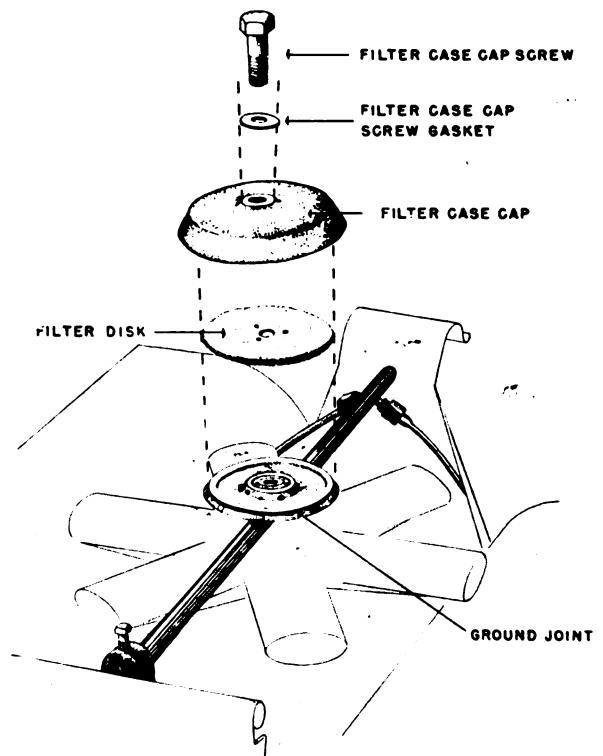

Figure 46. Original filter assembly, unit, fire, M1937.
(1) *How to clean filter case* (see fig. 46). (1) *a* The M1937 fire unit may be equipped with one of two types of filters. The instructions contained in this paragraph are applicable to the original type only. The new type, issued with the two new conversion sets, is discussed in paragraph 37.
(c) To change the filter disk, remove the filter cap screw and lift out gasket and filter cap. Take out the dirty filter disk. (See fig. 46.)